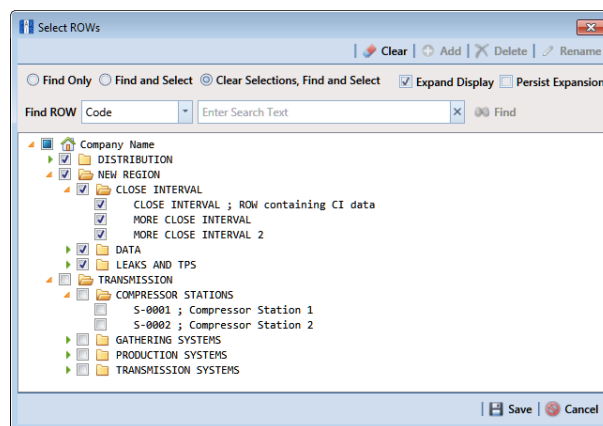

Figure 7-109. Select ROWs
- 1 Select one or more pipeline segments in the *Select ROWs* window (Figure 7-109). Click **Save** to close the window.